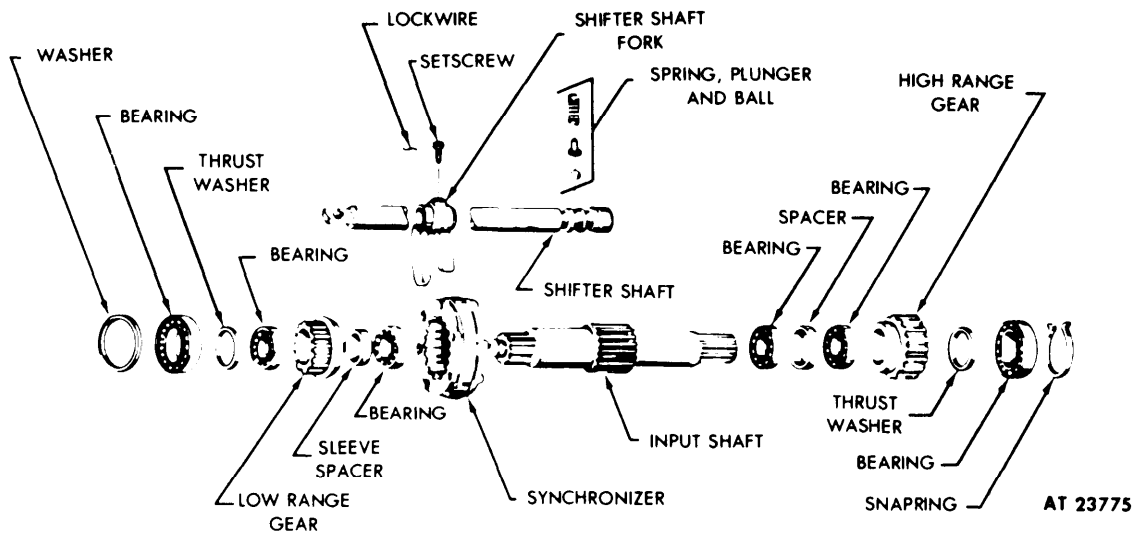

Figure 4-16. Input Shaft Disassembly — Exploded View.
(1) Remove shifter fork from synchronizer assembly. (See fig. 4-16.)
(2) Remove input shaft rear bearing snapping (fig. 4-16) from the end of input shaft. Place input shaft assembly in arbor press with rear bearing and high range gear up. Install a suitable puller (item 4, table 2-1) around input shaft high range gear. Removal of high range gear in this manner will push the gear bearings, spacer, thrust washer, and rear bearing from the input shaft.
(3) Place the high range gear in an arbor press and press high range gear ball bearings and spacer from bore of the high range gear. Apply pressure to the inner race of the bearing only. (See fig. 4-16.)
(4) Slide synchronizer assembly from input shaft. (See fig. 4-16.)
(5) Place input shaft assembly (fig. 4-16) in arbor press, low range gear up. Place support bars beneath the low range gear and press shaft from input shaft low range gear, gear bearings, spacer, and thrust washer (if still installed).
(6) Place input shaft low range gear (fig. 4-16) in a press, and press low range gear bearings and spacer from input shaft low range gear. Apply pressure to the inner race of bearing only.
- e. Input shaft (fig. 4-16).